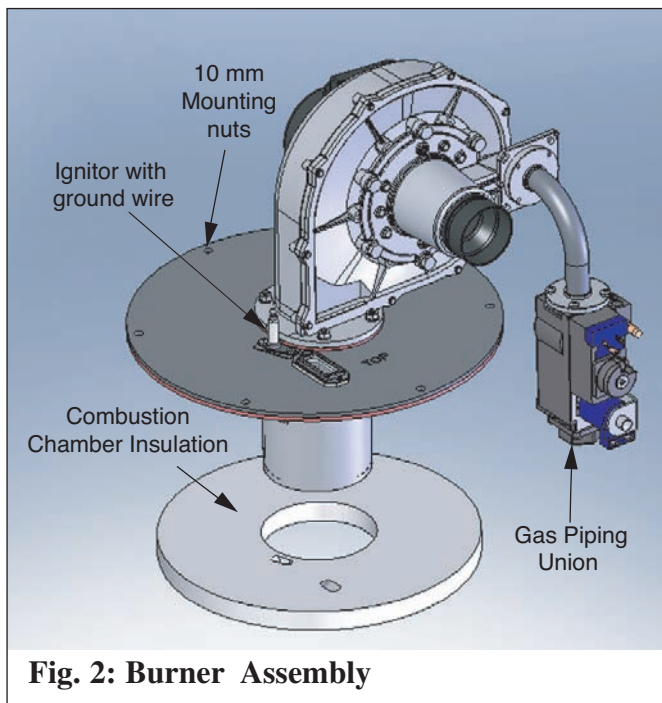

Fig. 2: Burner Assembly
10. Re-insert the burner plate and burner assembly onto the heat exchanger body. Carefully align the burner assembly and ignitor with the combustion chamber insulation to avoid insulation damage, as shown in Fig. 2.